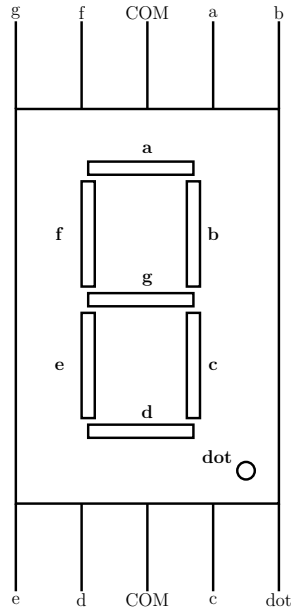

Figure 5: Seven segmented display
6. Final step is to connect the seven segmented display and then connected it with the dceoder (7447 IC) according to the table 2 and the figure 5